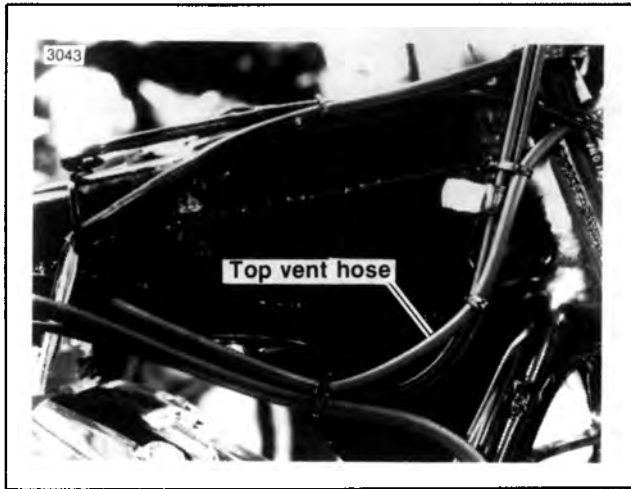

Figure 4-57. Top Vent Hose Routing — FXR
B. See Figure 4-57. On FXLR models, push one end of remaining portion of small diameter hose over top fitting on vapor valve. Route hose around front of steering head, along frame to vent fitting in bottom of fuel tank. Ty-wrap hose to throttle cables in two places. Third ty-wrap closest to vent fitting includes two throttle cables and two evap. kit hoses. Make sure both throttle cables work freely after securing with ty-wrap.